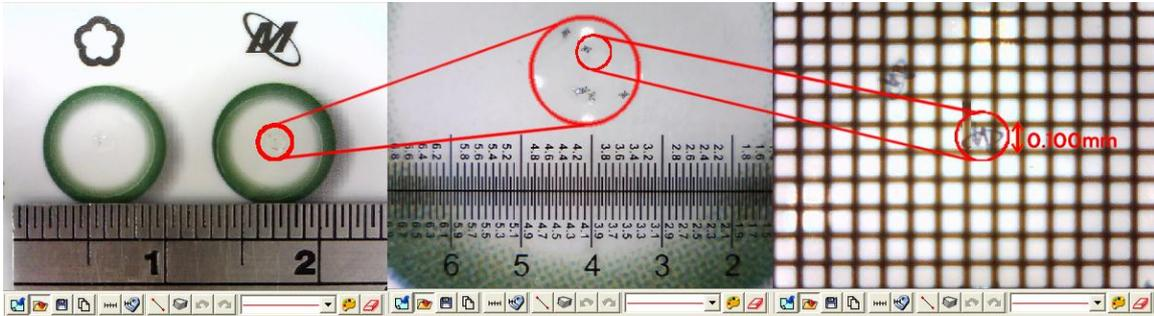

Fig.5-35 High Magnification Grid
- d. 0.1mm High Magnification Grid: See Fig.5-35, put the 0.1mm scale (See above chart d) on “” microdot. The Length of  in a square i.e. 0.100mm.